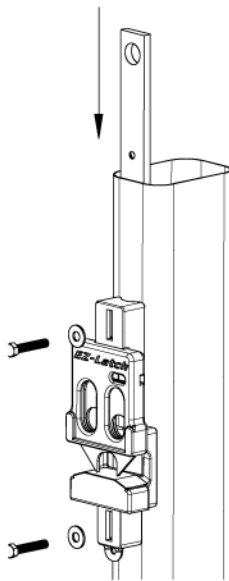
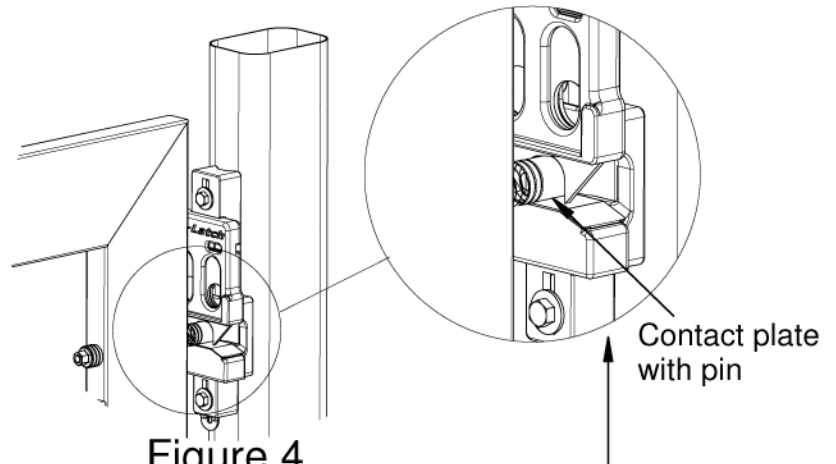

Figure 3
Figure 4
Step 3: Slide the latch plate into the post as shown in Figure 3 using the large hole in the top of the plate for holding. As a safety measure you may tie a string through the hole to allow retrieval of the plate should you accidentally drop it. Secure the latch to the post using the two screws and washers. With the screws snugged into position, swing the gate into the latch. Push the latch up until the bottom plate of the latch contacts the latch pin as shown in Figure 4 and tighten the screws.